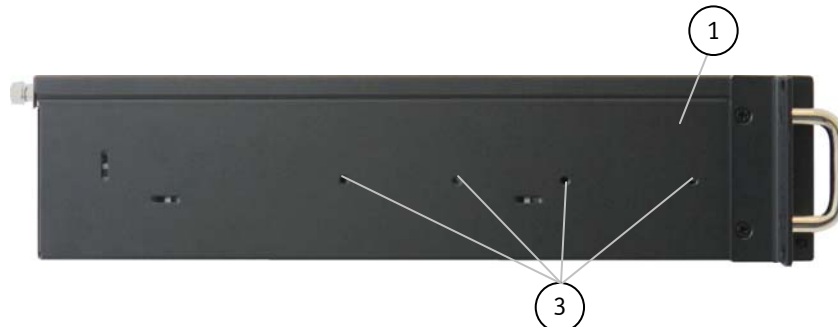

Fig. 21: KISS 2U Short V2 - left side
The four M4 metric tapped holes (Fig. 21, pos. 3) are available at the left and right side of the unit. These can be used in order to attach slide rails (not included in the scope of delivery) to the KISS 2U Short V2 platform for system installation into a 19" industrial cabinet. Refer to the chapter 11 "Slide Rails (Option)".